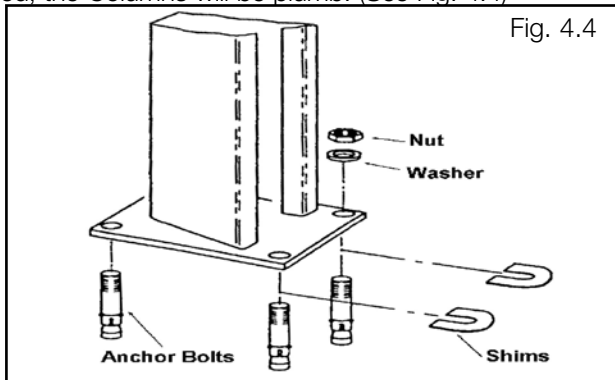

Fig. 4.4
5. If shimming is required, insert the Shims as necessary under the Base Plate so that when the Anchor bolts are tightened, the Columns will be plumb. (See Fig. 4.4)